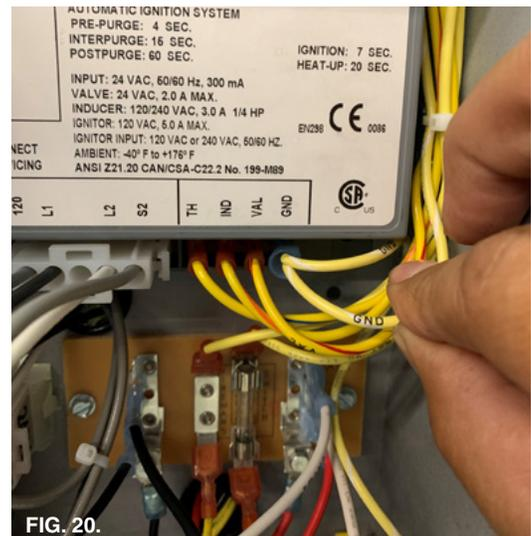

FIG. 20.
16. Route wires (HL, AGS, WP, etc) to the manifold. (Fig. 20).
16. Connect the White/Yellow wire to GND ¼" tab at the ICM. (Fig. 20)